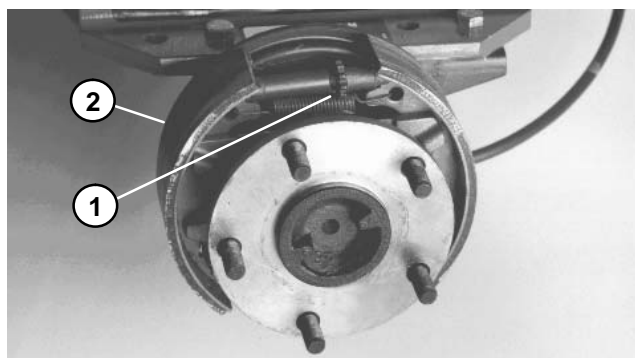

Figure 12
4. Loosen (do not remove) the five (5) wheel lug nuts.
6. Remove brake drum. Rotate star nut until there is contact between brake shoes and drum when drum is installed (Fig. 12).